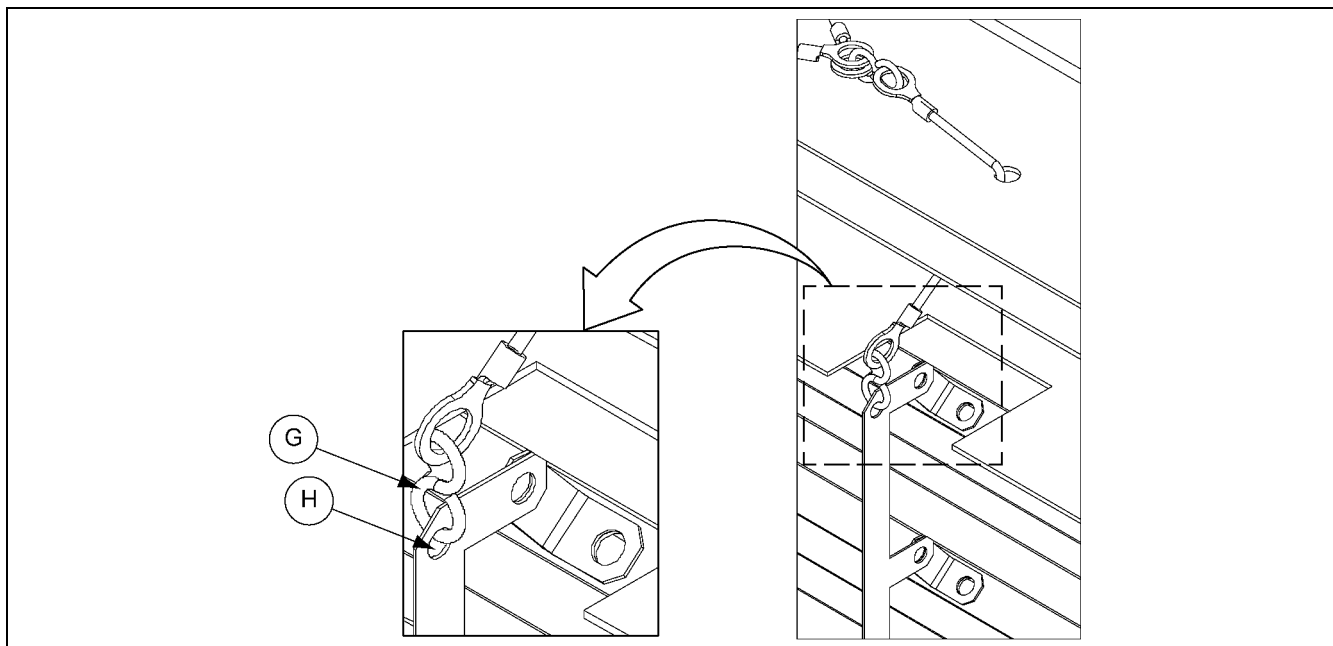

Figure 4 Cable Assembly
- Drill a 3/16" hole at the end of the linkage bar as shown in *Figure 4*.
- Attach the cable assembly (F-7208) to the linkage bar of the shutter using the S-hook (G) provided. *(See Figure 4.)*